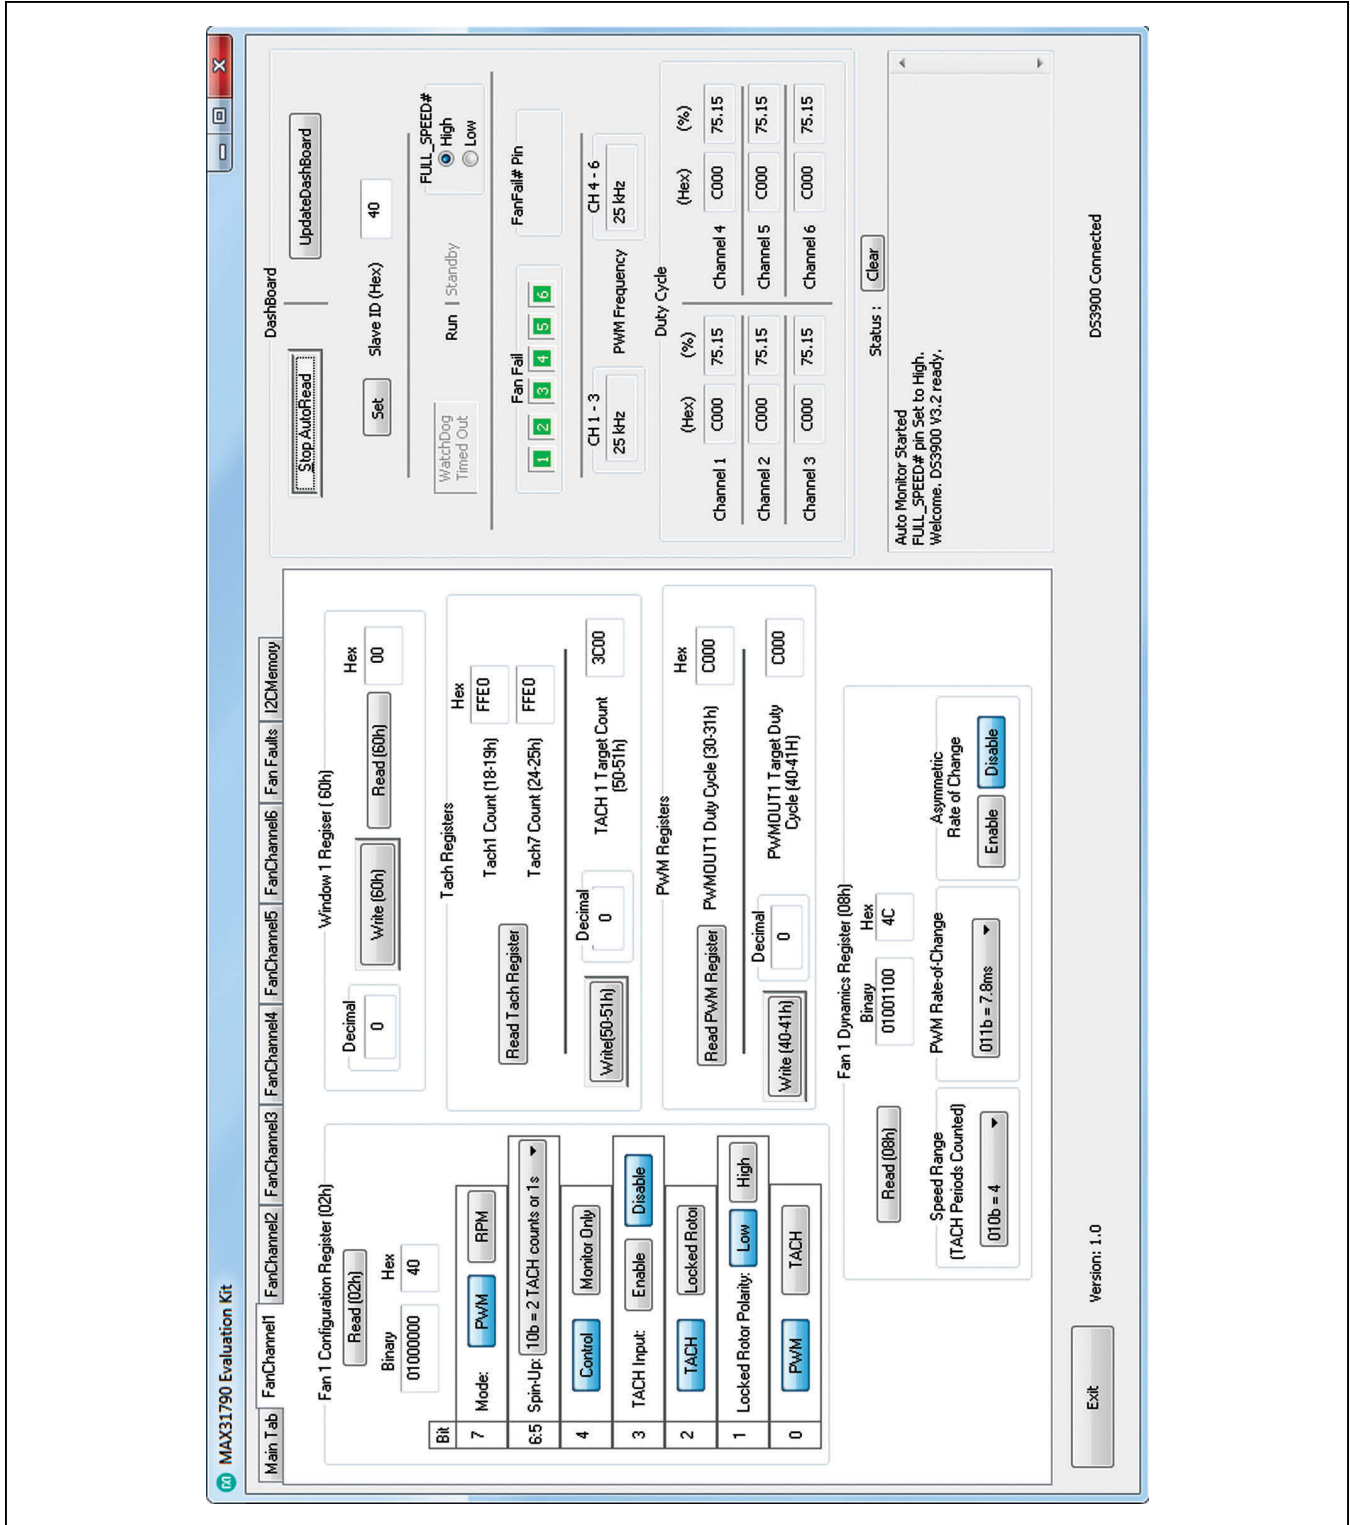

Figure 2. MAX31790 EV Kit GUI (FanChannel1 Tab)
- **FanChannel1–6 Tabs** (Figure 2):